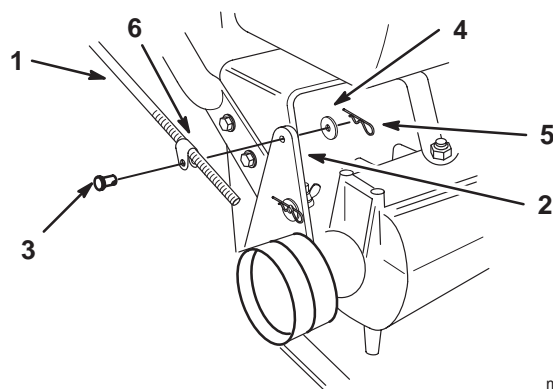

Figure 24
1. Remove hairpin cotter, washer and clevis pin securing control rod fitting to idler bracket (Fig. 24).